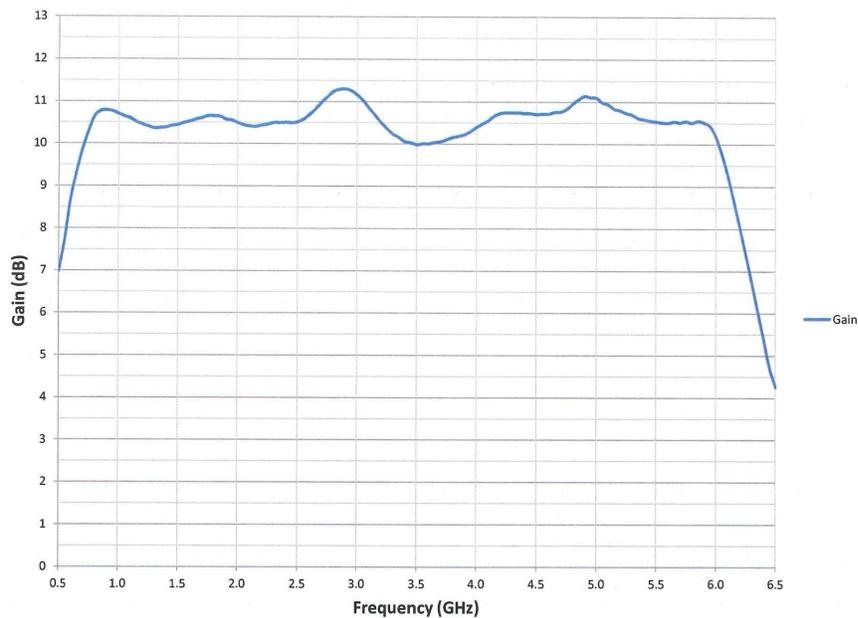

Figure 4-3. Typical Quad Amp Response
- If the gain is slightly low (i.e., several dB below typical), try disconnecting the input and output cables from the A3, A5-A8 Quad Amps and checking the individual gain. Typical Quad Amp response is shown in Figure 4-3.